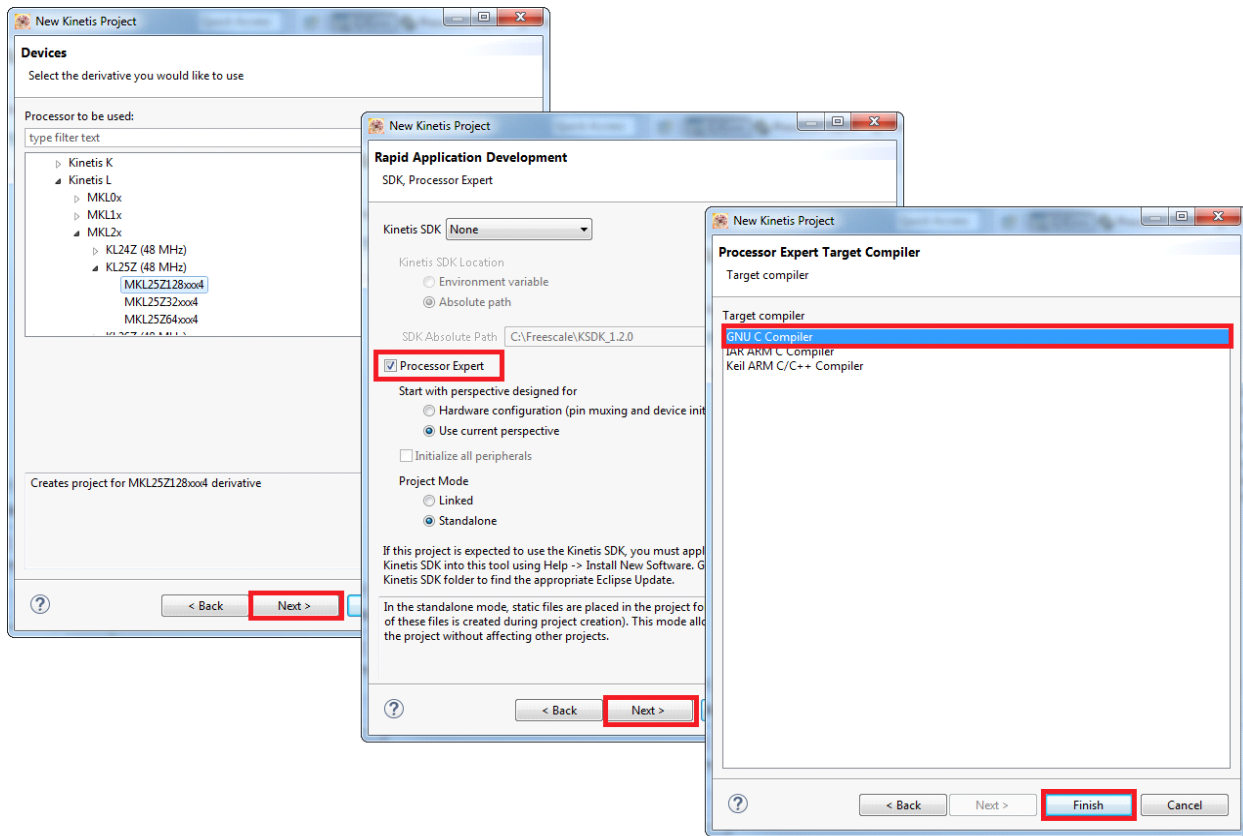

Figure 25. New project creation (b)
3. In the **Rapid Application Development** dialog box, make sure that the **Processor Expert** option is selected. Then click **Finish** as shown in Figure 25.
4. In the **Processor Expert Target Compiler** dialog box, select the compiler to use (GNU C Compiler in Figure 25) and then click **Finish**.